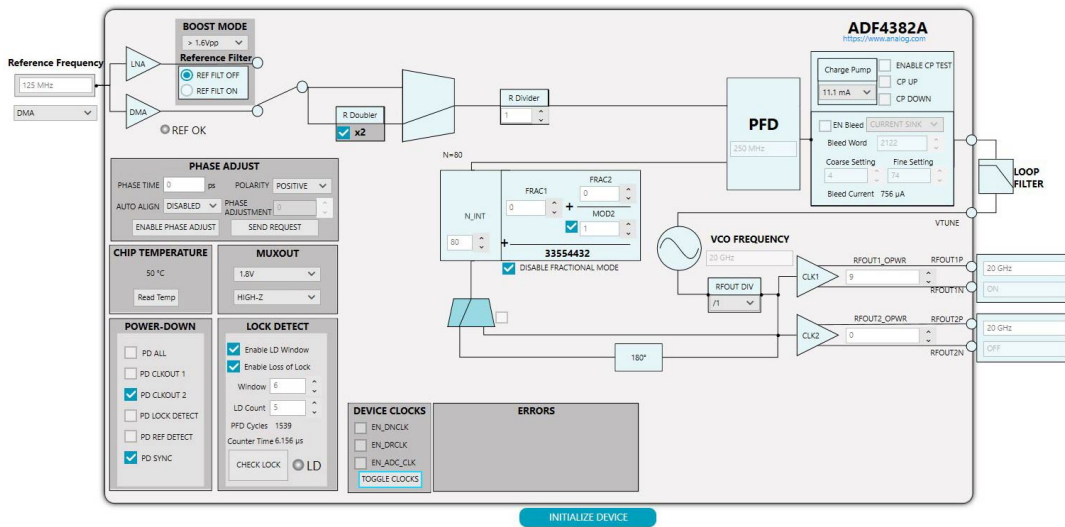

Figure 5. Front Panel
The output power of the clock output channels can be adjusted via the **ACE Software** individually using the **RFOUT1_OPWR** and **RFOUT2_OPWR** numeric selectors (see Figure 5).
The clock output channels can be powered down separately via the **ACE Software** or hardware using the **PD CLKOUT 1** and **PD CLKOUT 2** check boxes (see Figure 5).
3. Double-click the **ADF4382A** icon that appears on the board GUI to open the main control window shown in **Figure 5**
The main controls are available in the high level register map shown in Figure 5. To modify registers, perform the following steps:
2. Click **INITIALIZE DEVICE** to write to all registers and to initialize the device (see Figure 5).
If the RFOUT frequency selected is outside of the operational range, an error message appears within the **Errors** section (see Figure 5).
Specific blocks can be powered down by setting the corresponding power-down check box within the **POWER-DOWN** section shown in Figure 5.
The RFOUT phase can be controlled within the **PHASE ADJUST** section in the ACE Software (see Figure 5). To adjust the phase, perform the following steps:
Run the software and follow the steps given in Evaluation Board Software section to open the main controls shown in Figure 5.